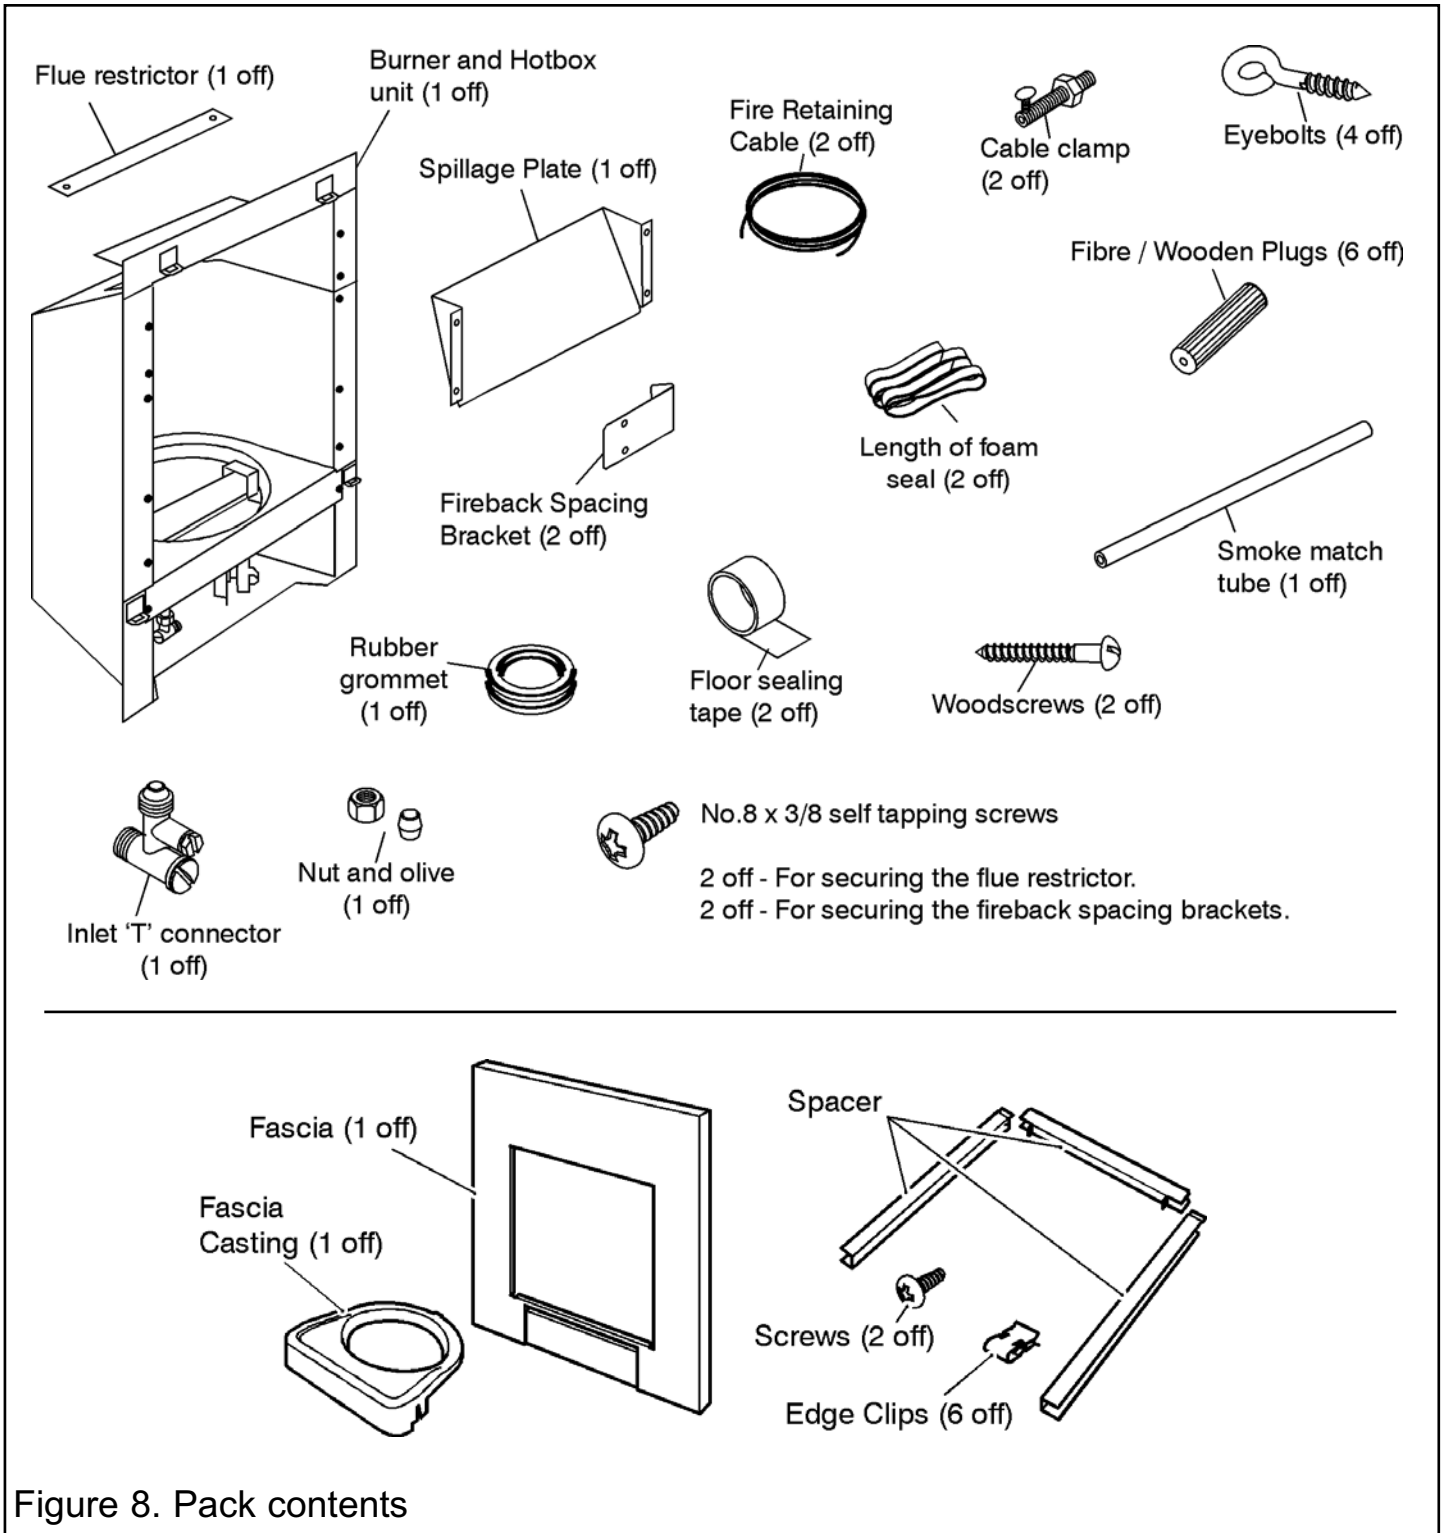

Figure 8. Pack contents
(See figure 8).
**11.** The spillage plate is supplied as a loose part (See figure 8). The spillage plate screws (4 off M4 x 10 taptite) have been fitted to the hotbox.